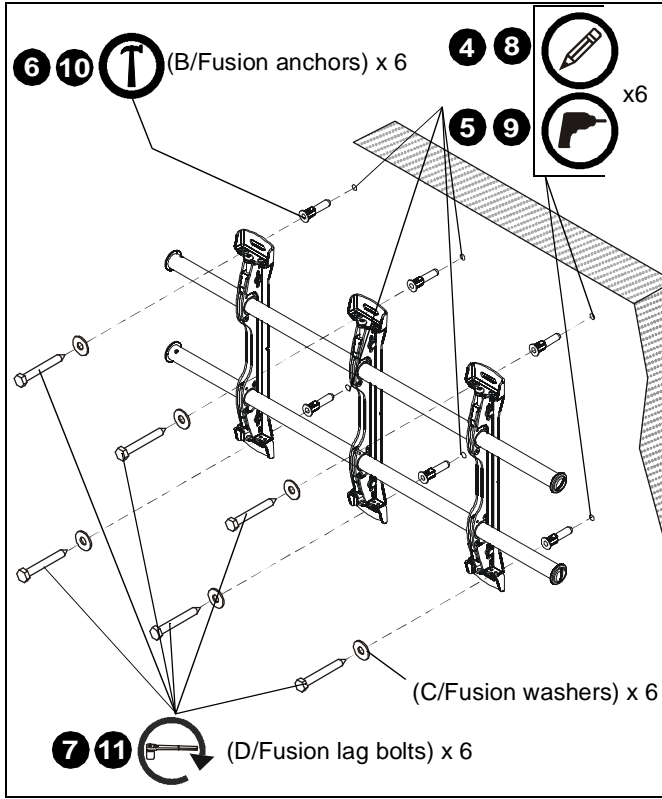

Figure 6
- Using a level, mark the wall through all three upper mounting slots. (See Figure 6)
- Install three anchors (B and anchors shipped with mount) into each pilot hole using a hammer. (See Figure 6)
- Use three 5/16 x 2-1/2" lag bolts (D and lag bolts shipped with mount) and two 5/16" flat washers (C and washers shipped with mount) to attach top of mount to anchors in wall. (See Figure 6)
- Mark the attachment points for the lower mounting slots. (See Figure 6)
- Drill one pilot hole at each marking for lower mounting holes. (See Figure 6)
- Use three 5/16 x 2-1/2" lag bolts (D and lag bolts shipped with mount) and three 5/16" flat washers (C and washers shipped with mount) to attach the mount to the wall through the lower mounting holes. (See Figure 6)